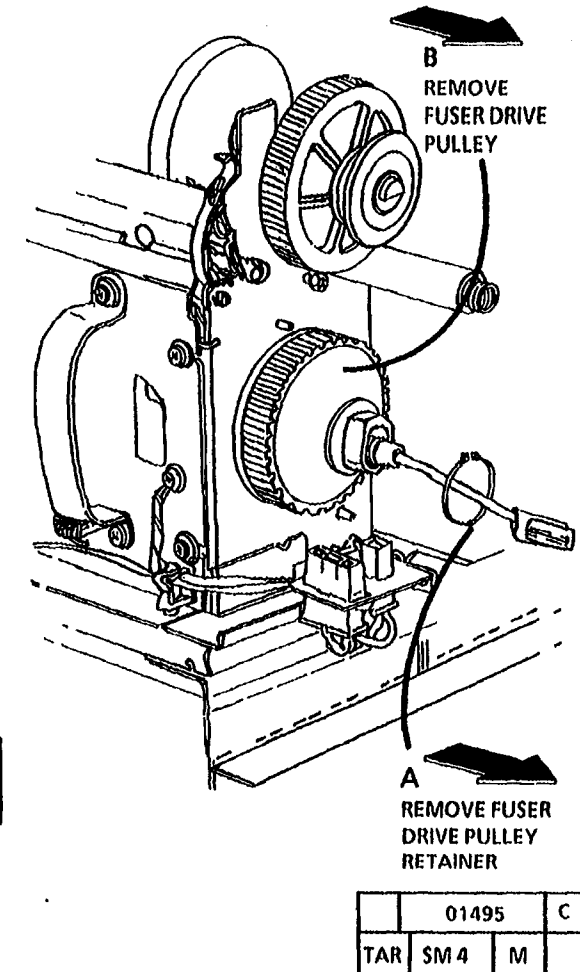

Figure 2. Remove the Fuser Drive Pulley
5. (Figure 2): Remove the Fuser Drive Pulley.